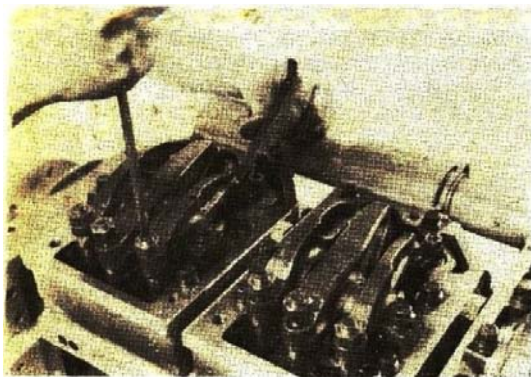

Fig. 14-68, Adjust the valves
2. Turn the adjusting screw down until the rocker lever just touches the feeler gauge (Fig. 14-68). In this position, tighten the locknut to the same value as the injector locknuts.